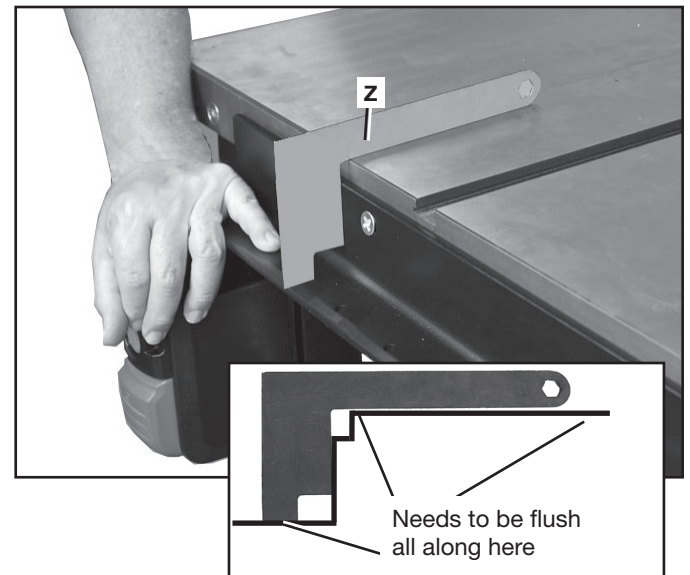

FIG. 14
4. Using template (Z) Fig. 14, check rail position at left side of table as shown, then the right side. Then re-check both left and right side after tightening. The gauge must be fully on the table and just touch the rail surface. See inset Figure 14.
5. When positioned as described above, the horizontal portion of the rail should be down from the top of the table surface 2-7/8" (73.03 mm). **Tighten the front rail mounting hardware when you are certain the rail is set at the proper depth. See inset Fig. 14 for cross-section showing where to check for flush.**